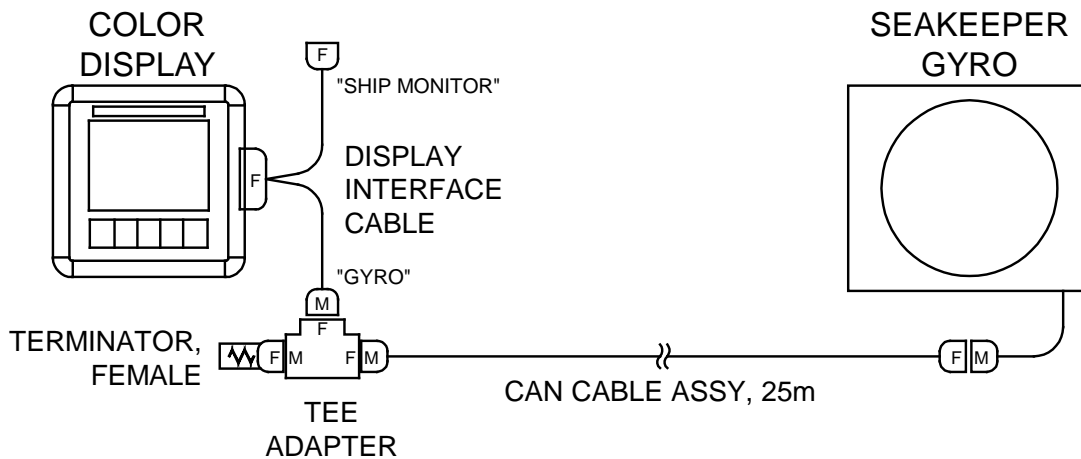

FIGURE 9 – SERIAL COMMUNICATIONS LINK FOR OPERATOR STATION
- c. Figure 9 below shows the CANbus communications link for the Operator Station. The Terminator goes on the far end of the Tee Adapter from the Gyro.